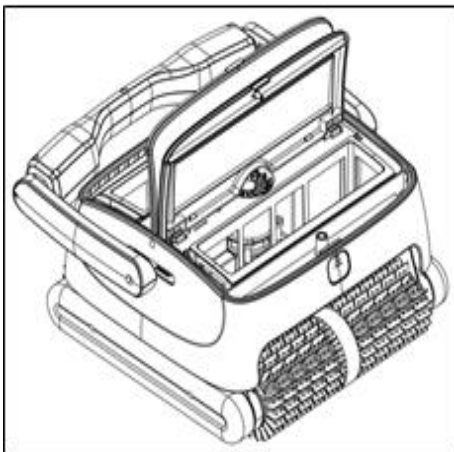

Figure 3
- c. Open the top cover (see Figure 3)